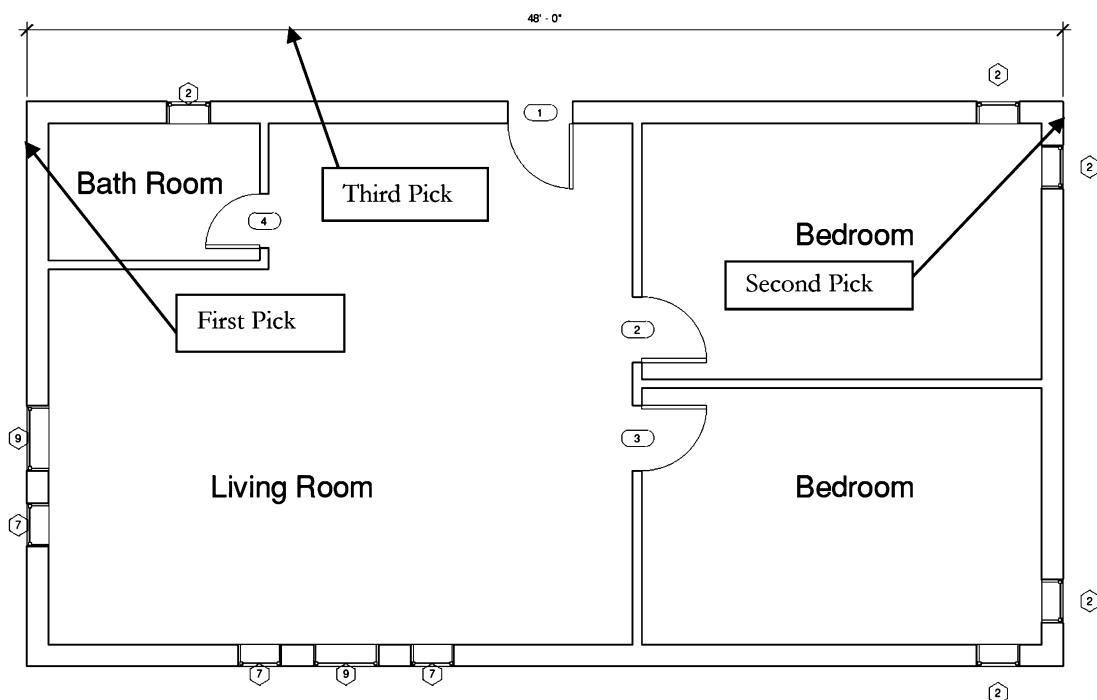

FIGURE 2-5.6 Placing Dimensions
11. Place a dimension by selecting two walls and then clicking a third point to specify where the dimension line should be located relative to the walls (Figure 2-5.6).